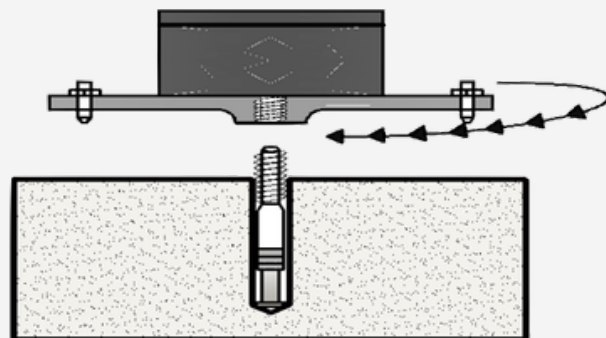
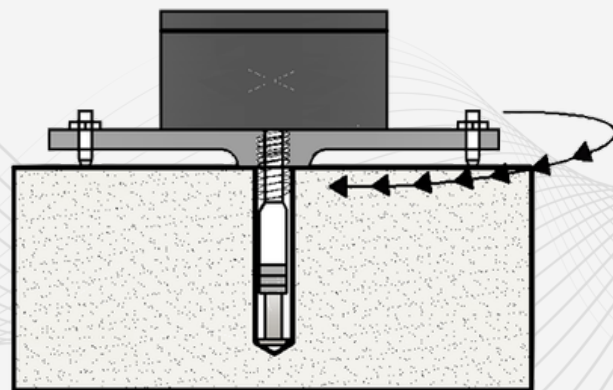

Figure 3 - Mating plate and anchor
Figure 4 - Fully mated mounting plate
8. Lower the XGeo into place over installed anchor, match male threads from anchor with female threads at bottom of mounting plate. Rotate mounting plate clockwise to mate anchor and plate together, see Figure 3 and Figure 4).